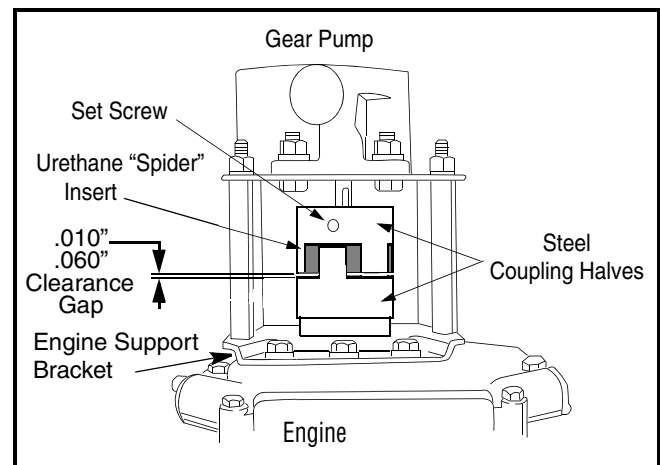

FIGURE 4
17. Slide the new engine coupling half and new Key, Item 8, onto the engine shaft until the end of the shaft and Key are flush with the inner portion of the engine coupling half. (Check to ensure that there is space between the end of the engine support bracket and coupling half). Tighten engine coupling half to the crankshaft using a new Set Screw, Item 9. See Figure 4.
22. Slide the pump coupling half towards the engine coupling half until there is a .010" to .060" clearance/gap between the nylon "spider" and the engine coupling half. Use a feeler gauge between the nylon "spider" and the engine coupling half. Secure the pump coupling half to the pump input shaft with the set screw. Tighten securely. See Figure 4.